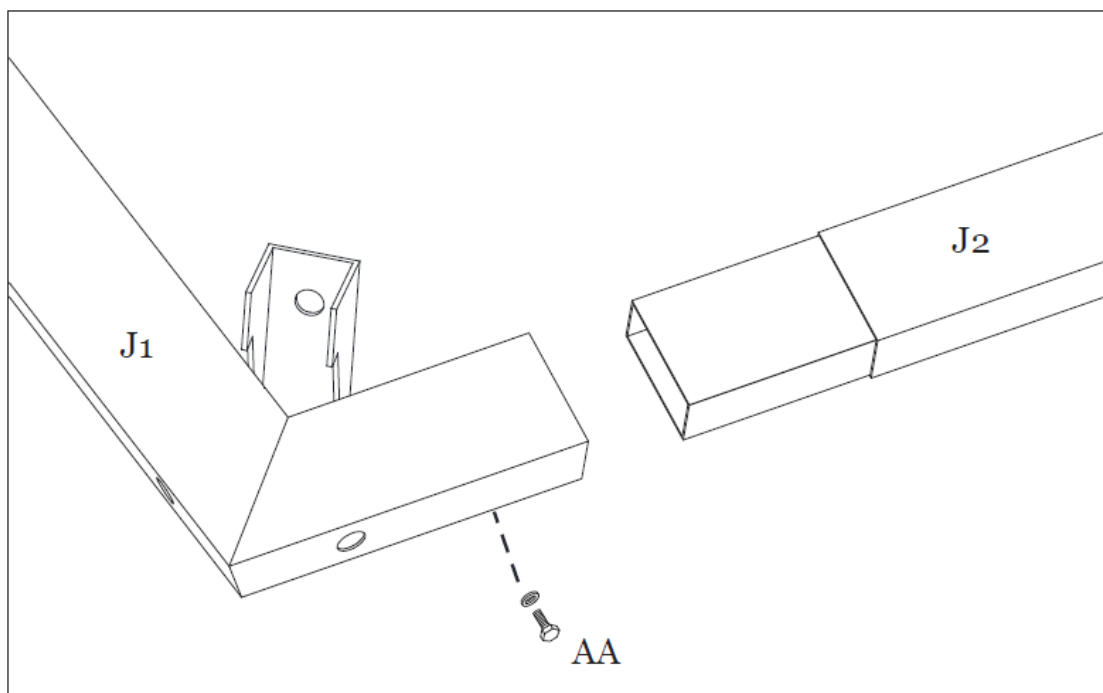

Figure 6-1
Step 6A: Assemble the Main Roof Center Frame by inserting the Long Connector (J2) into the Short Connector (J1) and attach with Bolts (AA). See Figure 6-1.